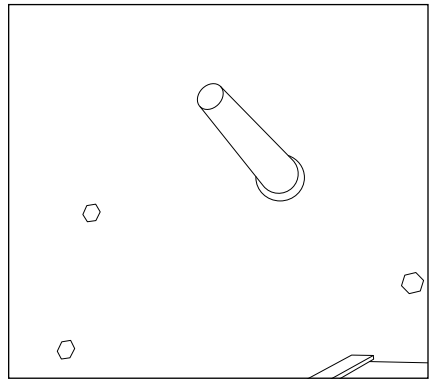

Fig. 8
- Locate the holes on the sewing machine table where the motor will be mounted using bolts. On a Reliable sewing machine, these holes are located behind the sewing machine head and are arranged in a triangular pattern. (Fig. 8)